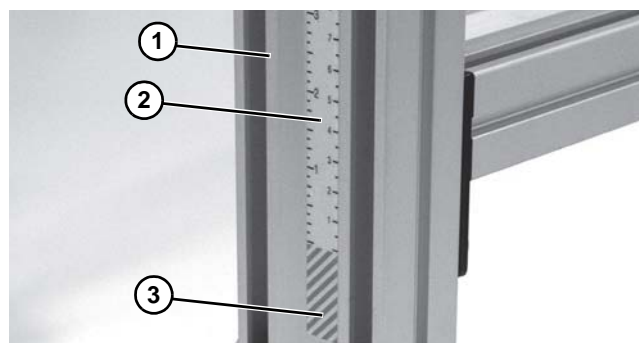
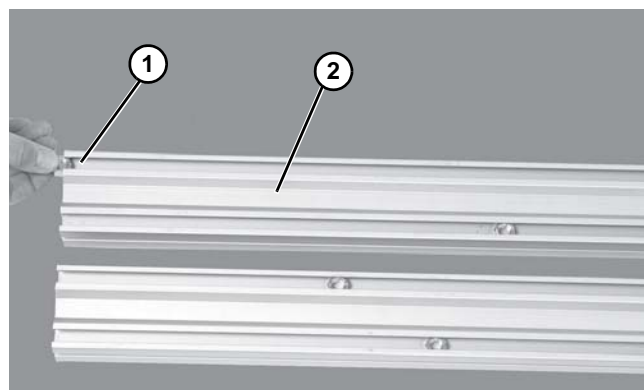
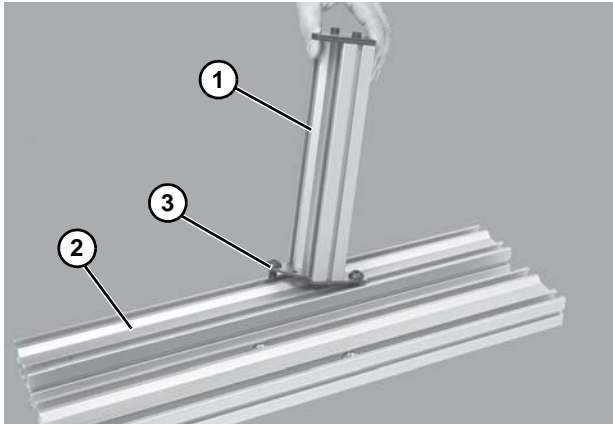

Figure 3
Figure 4
Figure 5
Stand legs (Figure 3, item 1) are equipped with a height sticker (Figure 3, item 2). Assemble stand legs with the sticker on the outside and the red warning area (Figure 3, item 3) at the bottom of the legs.
2. On the side opposite height sticker (Figure 3, item 2) install one (1) hex nut (Figure 4, item 1) into each inside stand leg (Figure 4, item 2) t-slot.
3. Attach crossmember (**Figure 5, item 1**) to stand leg (**Figure 5, item 2**) with button screws (**Figure 5, item 3**). Do not tighten.
4. Repeat step 4 for opposite stand leg. Make sure to locate the red warning area (**Figure 3, item P**) on the same ends of stand legs (**Figure 5, item K**).